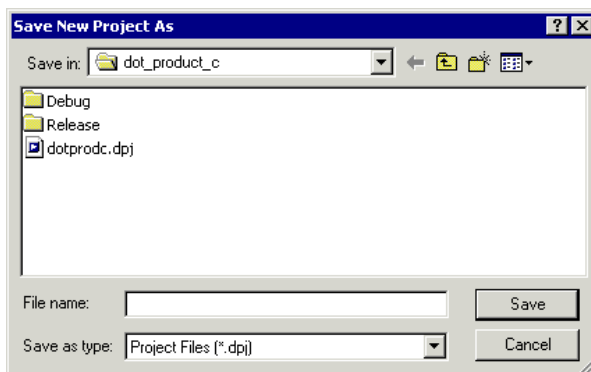

Figure 3-11. Save New Project As Dialog Box
2. From the **Project** menu, choose **New** to open the **Save New Project As** dialog box, shown in Figure 3-11.